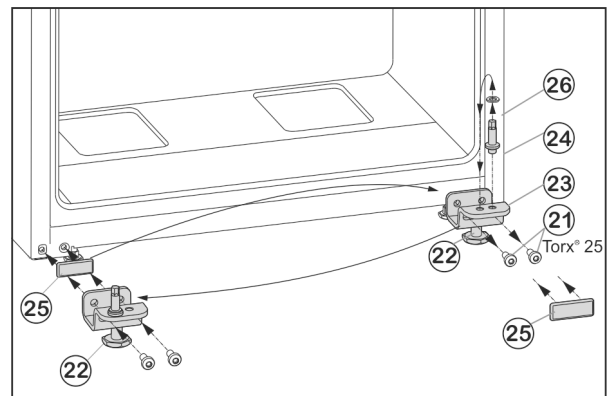

Fig. 7
- ▶ Unscrew fastening screws Fig. 7 (21).
- ▶ Remove the lower bearing block Fig. 7 (23), complete with bearing bolt Fig. 7 (24), washer Fig. 7 (26) and adjustable foot Fig. 7 (22).
- ▶ Unscrew the bearing bolt Fig. 7 (24), complete with washer Fig. 7 (26), re-locate it into the mounting hole on the opposite side of the bearing block and tighten again.
- ▶ Carefully remove the cover plate Fig. 7 (25) and re-locate it to the other side.
- ▶ Fasten the lower bearing block *Fig. 7 (23)*, complete with bearing bolt *Fig. 7 (24)*, washer *Fig. 7 (26)* and adjustable foot *Fig. 7 (22)* to the new hinge side, with the help of a cordless screwdriver if necessary, and **tighten (with 4 Nm)** once again.
- ▶ Lower the bottom door onto the bearing bolt *Fig. 7 (24)*.
- ▶ Unscrew the adjustable foot *Fig. 7 (22)* on the lower bearing block *Fig. 7 (23)* until it reaches the floor.